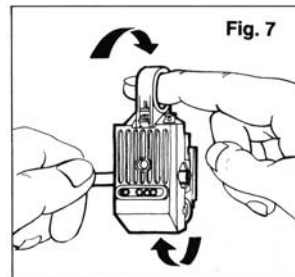

Fig. 7
**F. Rotate the tool** around coax about 5 times, (fig. 7). Push slide forward to next position in sequence. Rotate tool again. Then push slide forward to final position and rotate the tool final 5 times.